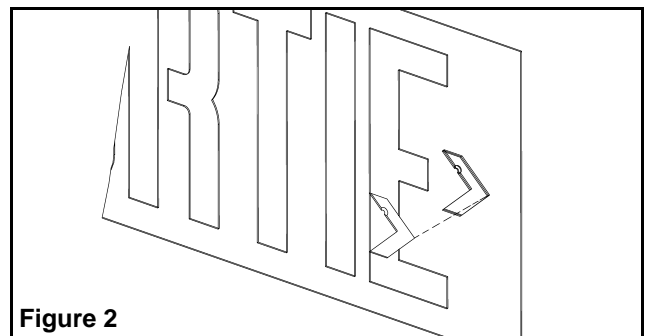

Figure 2
4. Remove the appropriate chevron(s) on the exit sign by supporting the exit face on either side of the chevron and carefully knock out with a screwdriver from the rear (See Fig. 2).